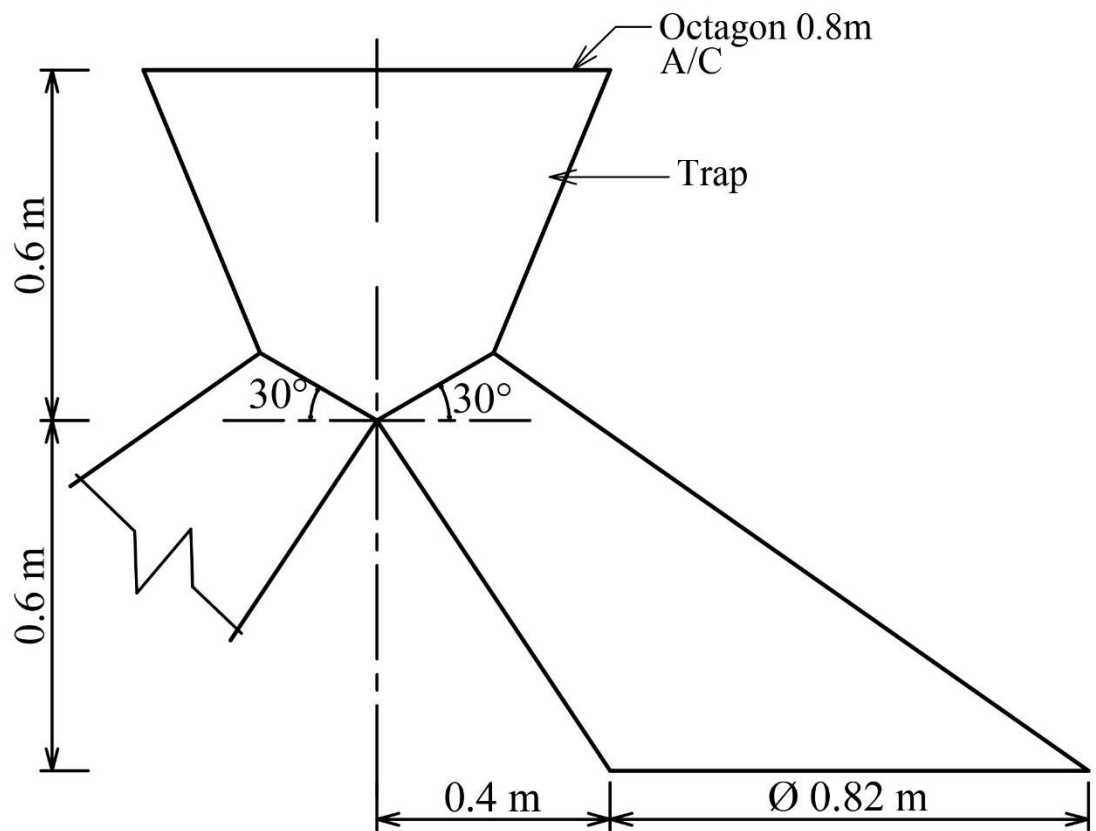

Fig. 1
1. Titus has been experiencing flooding around his house whenever it rains, especially near the gutter trap. Concerned about the recurring problem, he hired a plumber to inspect the drainage system. After inspecting the system, the plumber discovered that the gutter, the valley trap, and the piping system that channels water to the kitchen were damaged. To facilitate the replacement of the damaged parts, Titus provided the plumber with the original sketch of the elevation shown in figure 1. However, the sketch lacked important scaled technical drawings and details that clearly indicate the size, shape, and connections of the valley trap and the connecting pipes, which are necessary to guide the production and installation of the components.